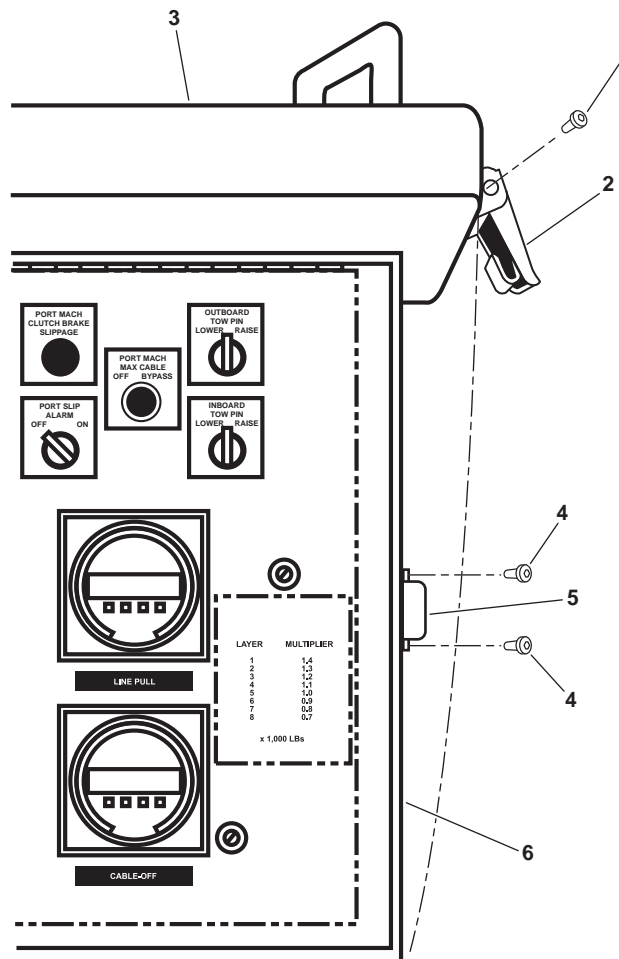

Figure 15. Toggle Latch Replacement
Remove the two rivets (figure 15, item 1) and remove the latch (figure 15, item 2) from the cover (figure 15, item 3).
Install the latch (figure 15, item 2) on the cover figure (15, item 3) and secure it in place with two new rivets (figure 15, item 1).
Remove the two rivets (figure 15, item 4) and remove the strike (figure 15, item 5) from the control panel (figure 15, item 6).
Install the strike (figure 15, item 5) on the control panel (figure 15, item 6) and secure it in place with two new rivets (figure 15, item 4).